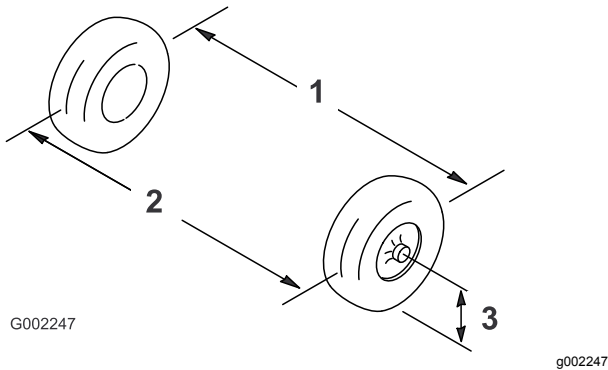

Figure 84
2. Measure the distance between both of the front tires at the axle height at both the front and rear of the front tires (Figure 84).